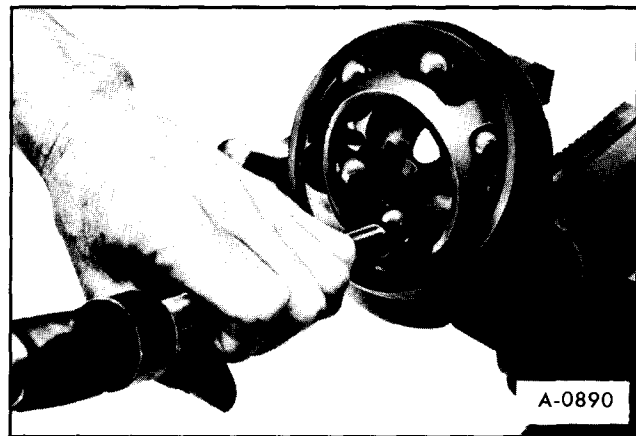
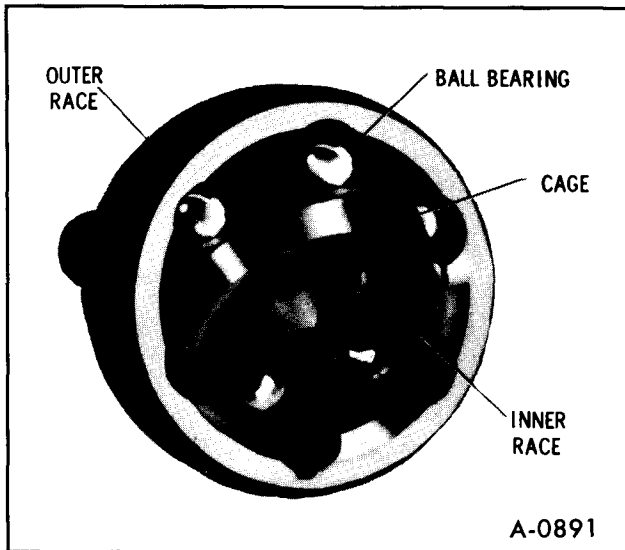

Figure 9—Tapping on Inner Race
Figure 10—Removing Ball Bearings
10. Carefully place a brass drift against one of the lobes of the inner race and tap gently as shown in Figure 9. Tip the race far enough to remove the first ball. The rest of the balls should be removed one at a time, with the cage tipped as shown in Figure 10. It may be necessary to carefully pry the last ball out of the cage with a screwdriver.